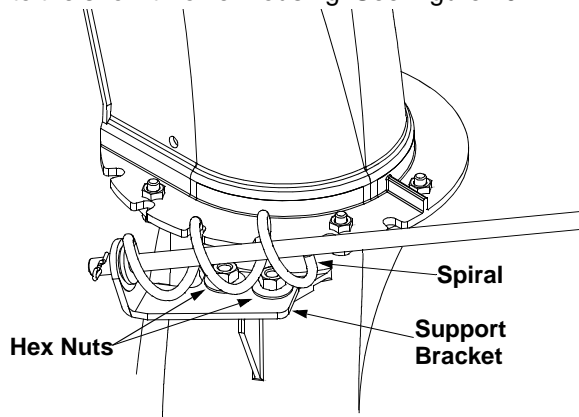

Figure 10
- Loosen, but do NOT remove the hex nuts which secure the chute directional control support bracket to the snow thrower housing. See Figure 10.
- Remove the hairpin clip and slide the clutch rod connector up, to separate the upper shift rod from the lower shift rod. See Figure 10.
- Place the shift lever into the sixth (6) position.